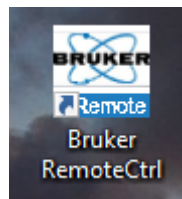

Figure 2. Bruker Remote Ctrl program
3. Click on **Bruker RemoteCtrl** in the computer screen (Figure 2). You will use this program to control the device from the computer while measuring your samples.